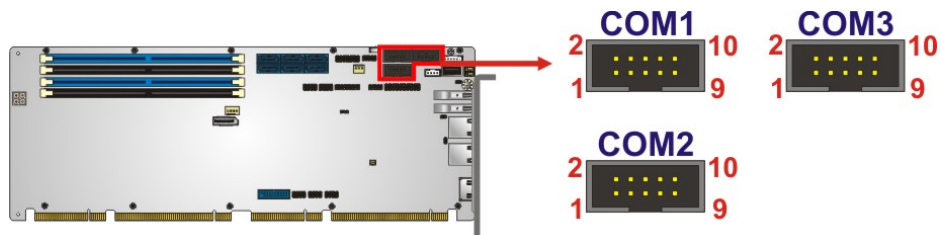

Figure 3-18: RS-232 Serial Port Locations
- CN Location:** See **Figure 3-18**